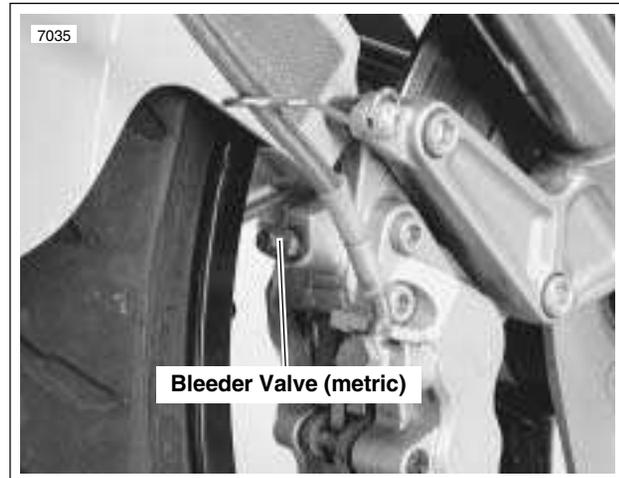

Figure 2-21. Draining Front Brake System
1. See Figure 2-21. Drain brake fluid into a suitable container. Discard of used fluid according to local laws.